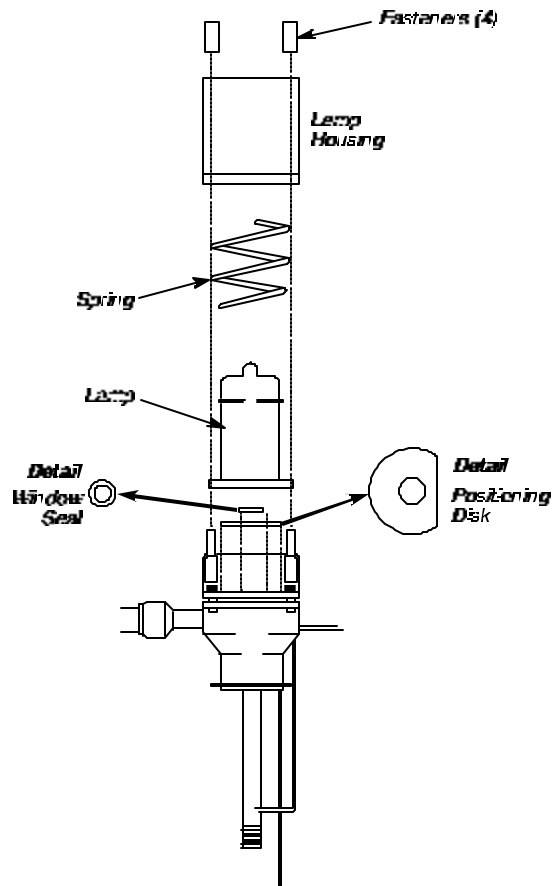

Figure 3- 33 Exploded view of the PID
7. Ensure that a new lamp window seal and a new positioning disk are in place (see Figure 3- 33). Then position the lamp over the window seal, place the spring over the lamp, and place the housing over the lamp and spring.